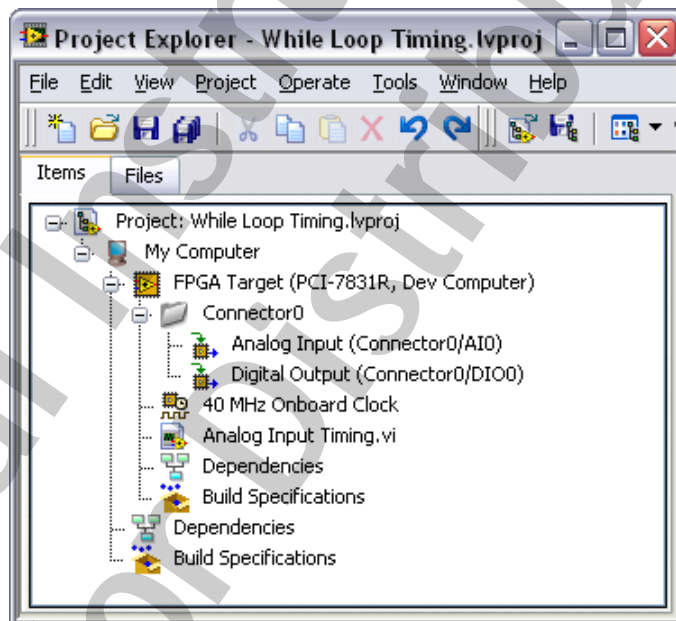

Figure 5-1. While Loop Timing Project Explorer
5. Verify that your Project Explorer window resembles Figure 5-1.